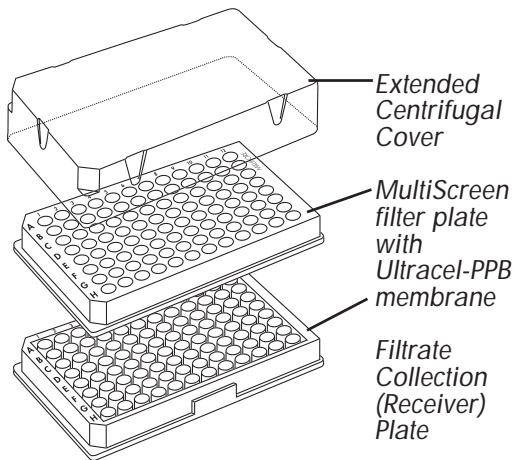

Figure 1. MultiScreen filter plate with Ultracel-PPB membrane assembly.
- MultiScreen filter plate with Ultracel-PPB membrane assembly (see Figure 1). Microtiter plate storage lids are also included.